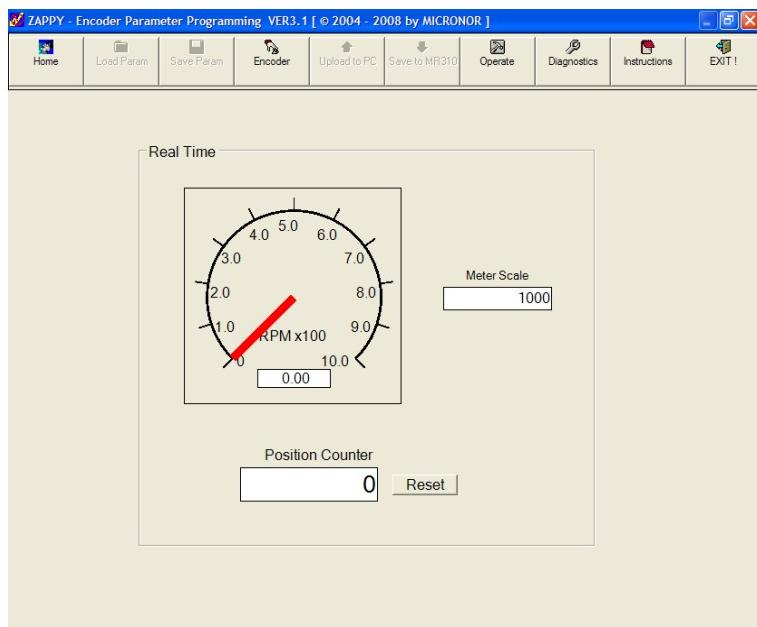

Figure 16. Initial OPERATE Screen via ZAPPY™ Software.
- STEP 1: Select [OPERATE] mode and observe the initial static screen display similar to Figure 16. Adjust RPM METER SCALE setting as desired by writing into the field. Click on [RESET] to zero the POSITION COUNTER.